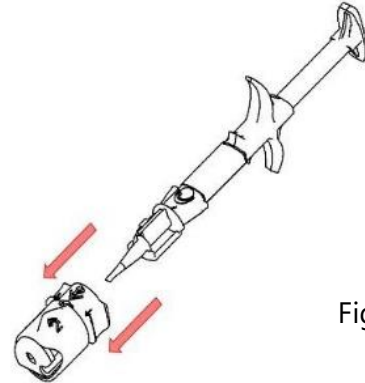

Fig. 3
7. Remove the adapter together with the rotatable ring as indicated by '4' (Fig. 3) by pulling it off and discard it.